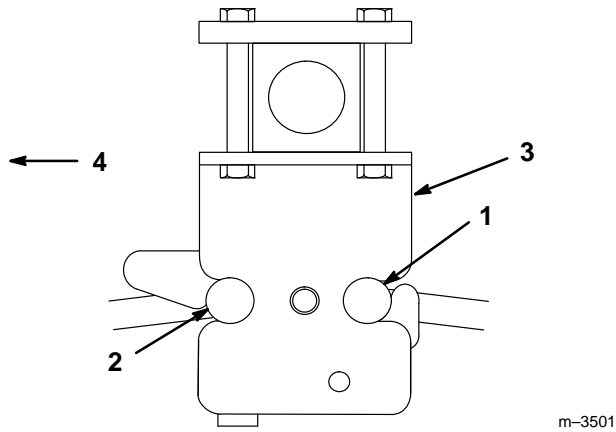

Figure 21
8. Press the release button and open the rear latches of the rear Attach-A-Matic™. Remove the tiller hitch bar (Fig. 21).